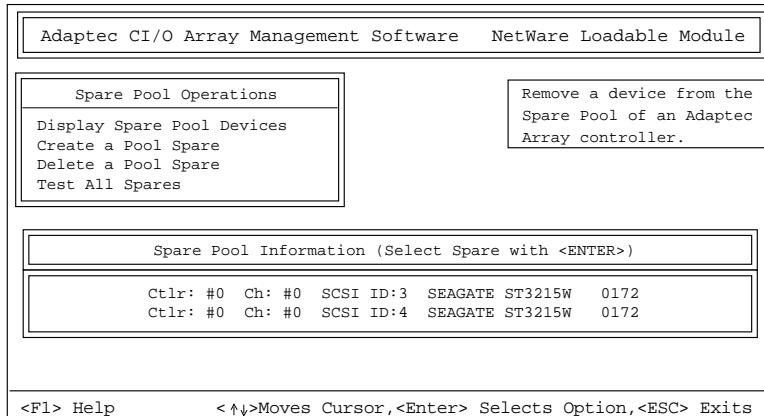

Figure 3-8. Delete a Pool Spare Window
- 2 Select **Delete a Pool Spare** from the Spare Pool Operations menu. A screen similar to Figure 3-8 appears.